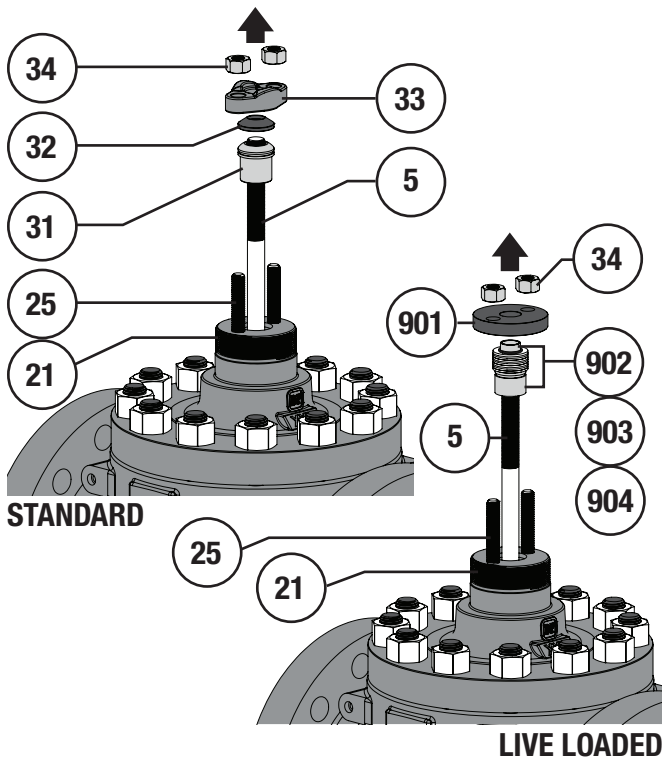

Figure 7 Packing Removal (Steps 1 - 3)
- Determine if valve has standard or live loaded packing (Refer to Figures 7, 19, 21, 22 & 23).